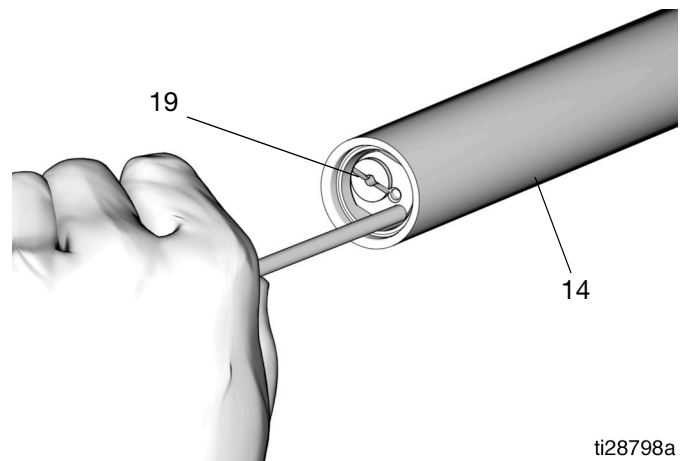

FIG. 28
2. Coat the new check valve assembly (19) with a thin layer of grease.
3. Use a smooth, long brass or aluminum rod, free of sharp edges and burrs, to push the check valve assembly (19) into place in the outlet tube (14) (FIG. 28).